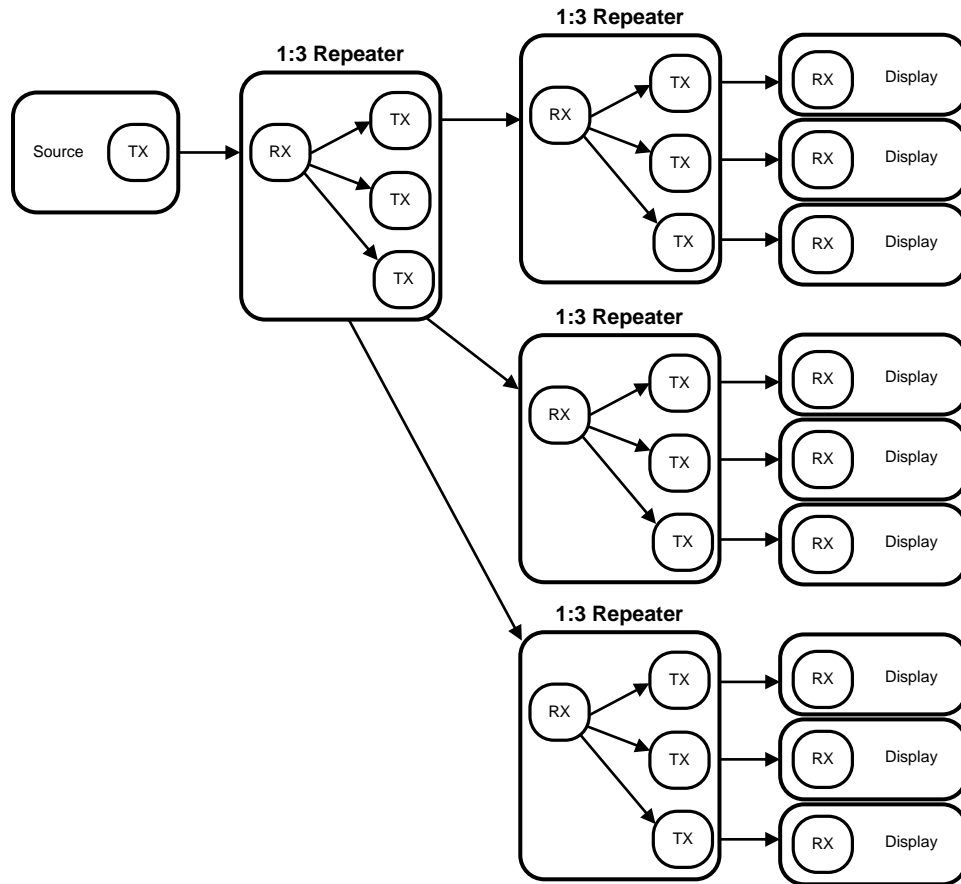

Figure 16. Maximum Repeater Application
In the repeater application, in this document, the DS90UB925Q is referred to as the Transmitter or transmit port (TX), and the DS90UB926Q is referred to as the Receiver (RX). Figure 16 shows the maximum configuration supported for Repeater implementations using the DS90UB925Q (TX) and DS90UB926Q (RX). Two levels of Repeaters are supported with a maximum of three Transmitters per Receiver.